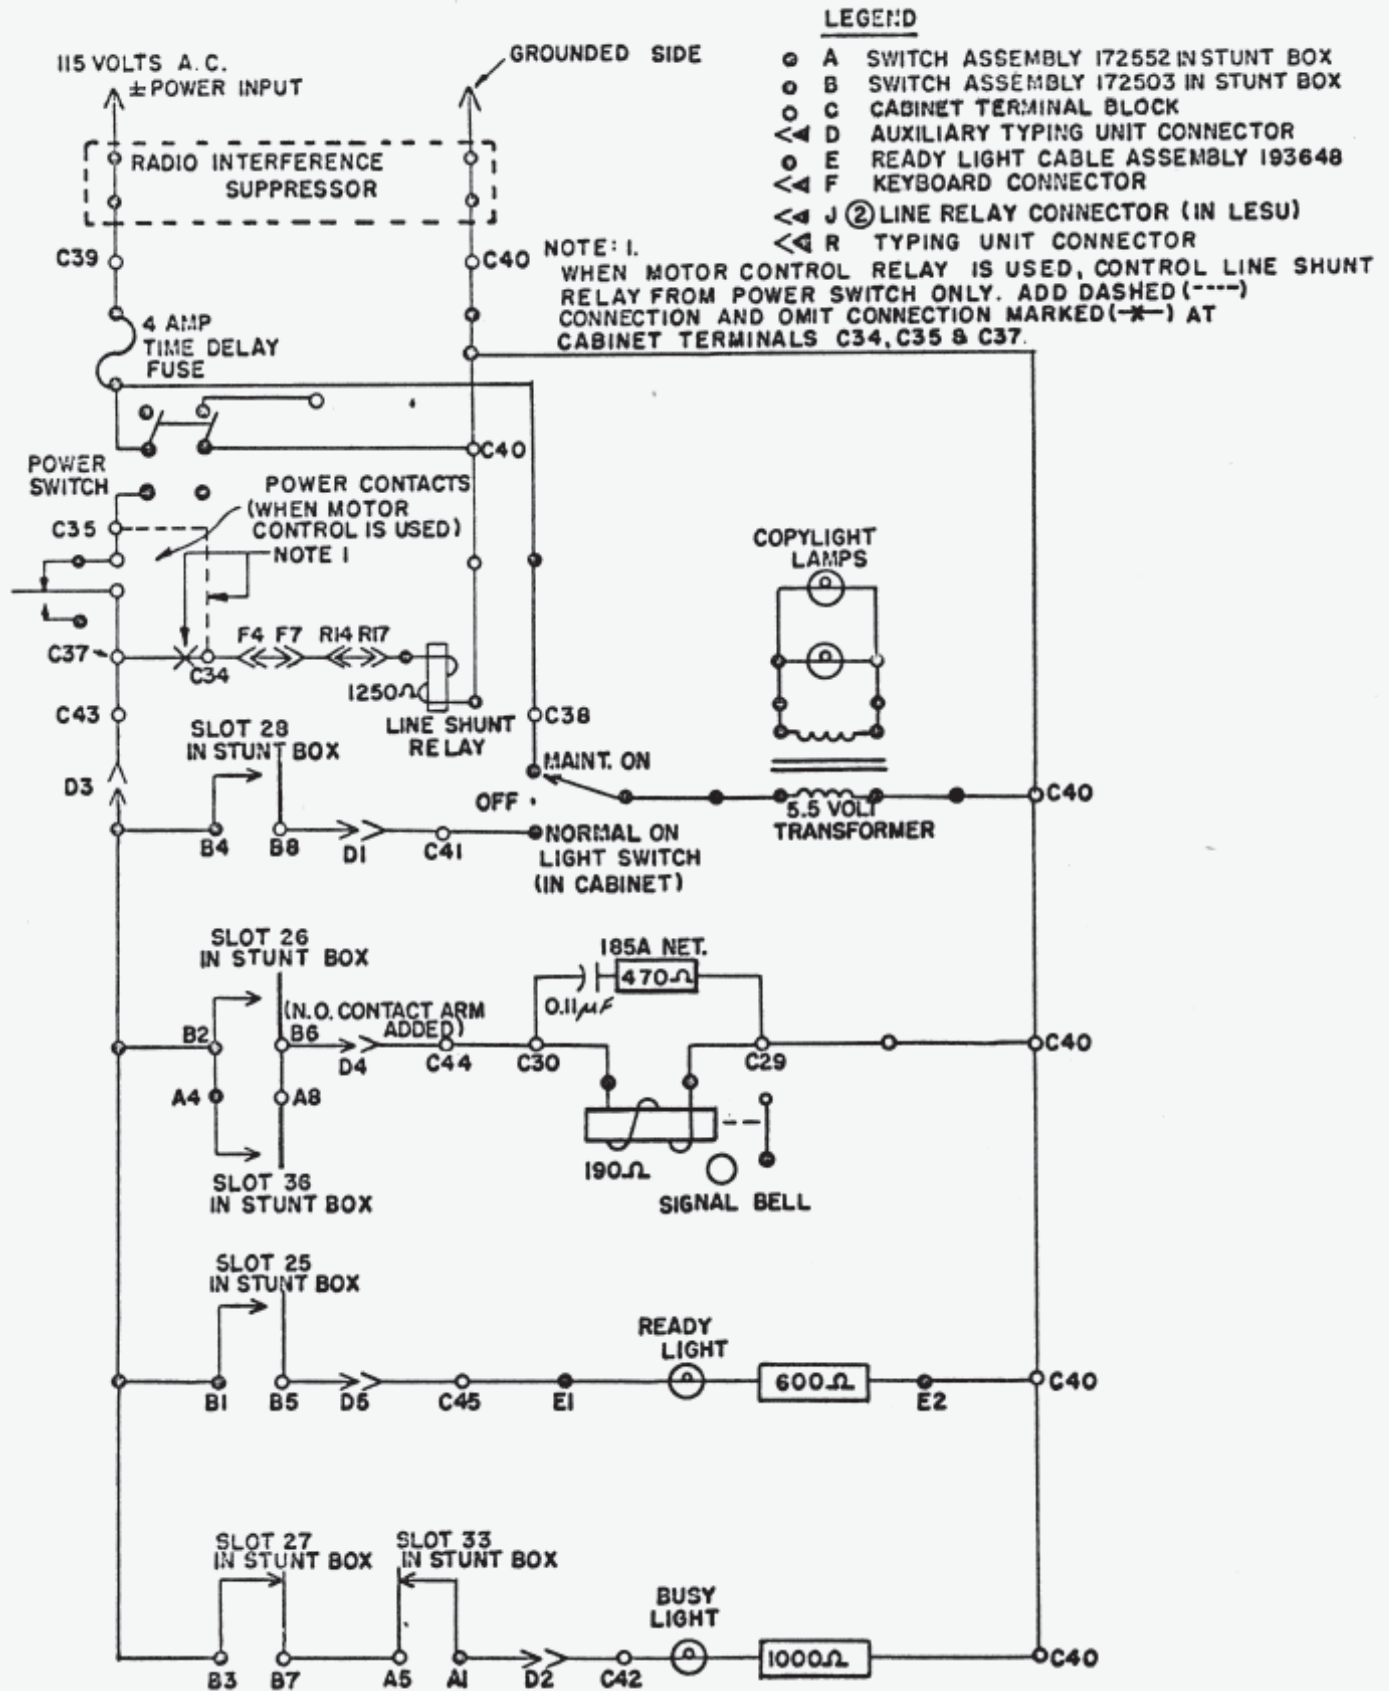

FIGURE 5.
(1) Motion of the lock bar to the left when the "SEND" key is depressed operates the normally closed contact to remove the shunt from the "LINE BREAK" key in addition to the signal generator.
(2) Motion of the lock bar to the right, when the "REC" key is depressed or when the keyboard lock sequence (a "line break" sensed as the sequence "Blank-Blank-any character or function") is transmitted, allows the contact to close placing a shunt on the "LINE BREAK" key in addition to the signal generator.
i. Schematic wiring for a typical outlying station Model 28 KSR set stressing features included by this conversion is provided in Figures 5 and 6.
1. FOR LEGEND SEE FIG. 5.